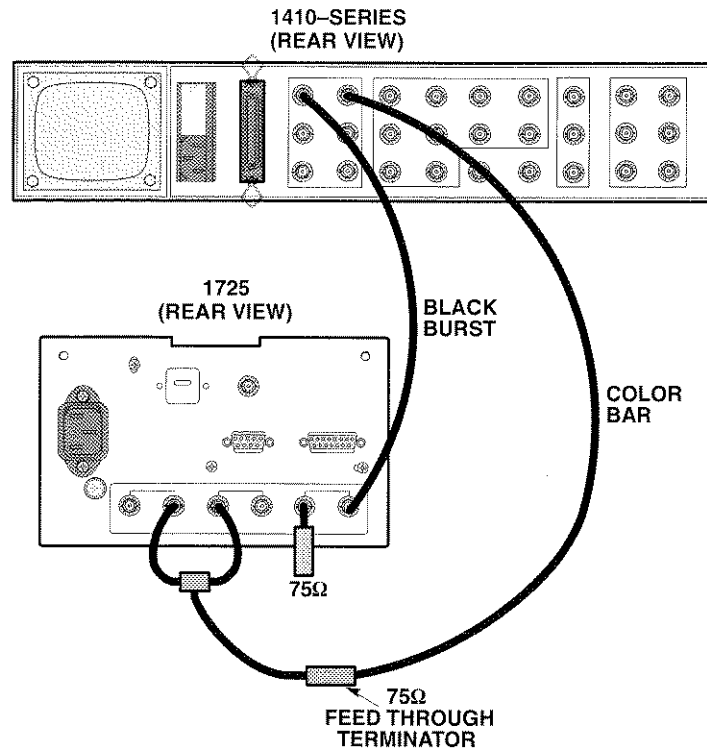

Figure 5-7: Signal connection for checking CH-A/CH-B phase matching.
- a. Connect the PAL Color Bar signal through a 75Ω feed through terminator and a dual input coupler to the CH-A and CH-B input connectors. Connect the black burst signal to the EXT REF loop through and terminate in 75Ω. See Figure 5-7.